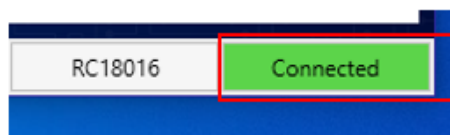

Figure 23. Connected Button
2. Once the RICBox connection is established to the EVB, the *Not Connected* button will change to *Connected* (see Figure 23).